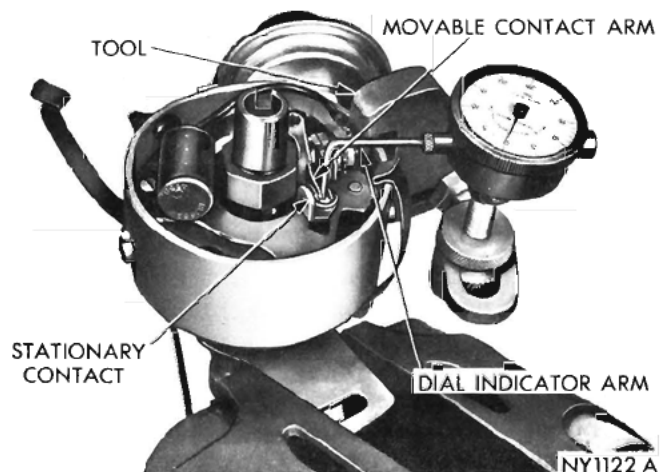

Fig. 14—Adjusting Point Clearance with Indicator (Typical)
(1) Loosen the terminal screw nut, and remove the primary lead, condenser lead and terminal screw.
(2) Remove the stationary contact lock screw and remove the old contact set.
(3) Install a new contact set; the sleeve at one end of the adjustable bracket fits over and pivots on the upper breaker plate mounting pin, the contact insulator also retains the terminal screw head.
(4) Connect the condenser and primary leads.
(5) Align the contacts, if necessary, to obtain contact in the center of the contacts, by bending the stationary contact bracket only. **Never bend** the movable contact arm to obtain alignment.
(6) After aligning the contacts, adjust contact clearance to "Specifications," using dial indicator (Fig. 14). Recheck the contact arm spring tension.
(7) Test the dwell angle to show proper degree of closure. See Paragraph, "Distributor Contact Dwell." The lock screw should be loosened just enough so that the stationary bracket can be removed with a slight drag; otherwise it will be difficult to set the contacts accurately. After setting the contacts to the correct gap, tighten the lock screw.